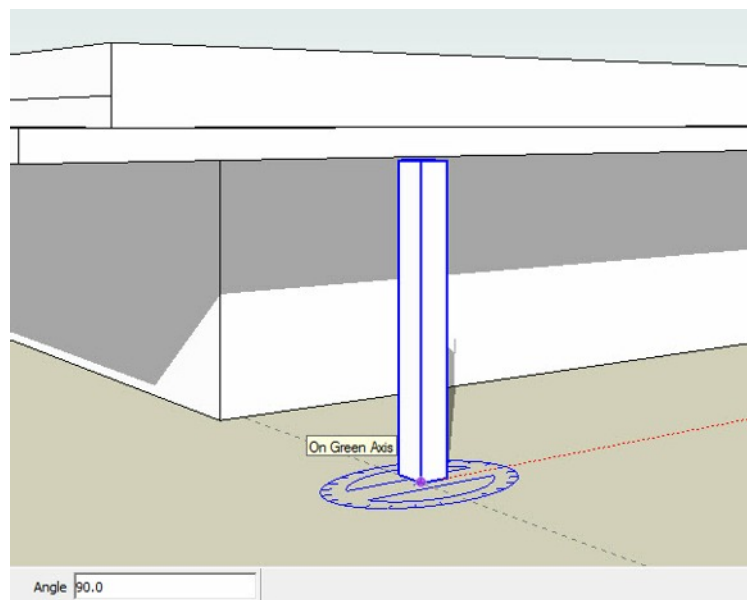

Figure 39. The pillar rotated through 90 degrees.
- Move the cursor in the direction of the green axis (the pillar will rotate) until 90 degrees can be seen in the Angle window as shown in Figure 39. The angle can also be typed into this box to ensure accuracy.